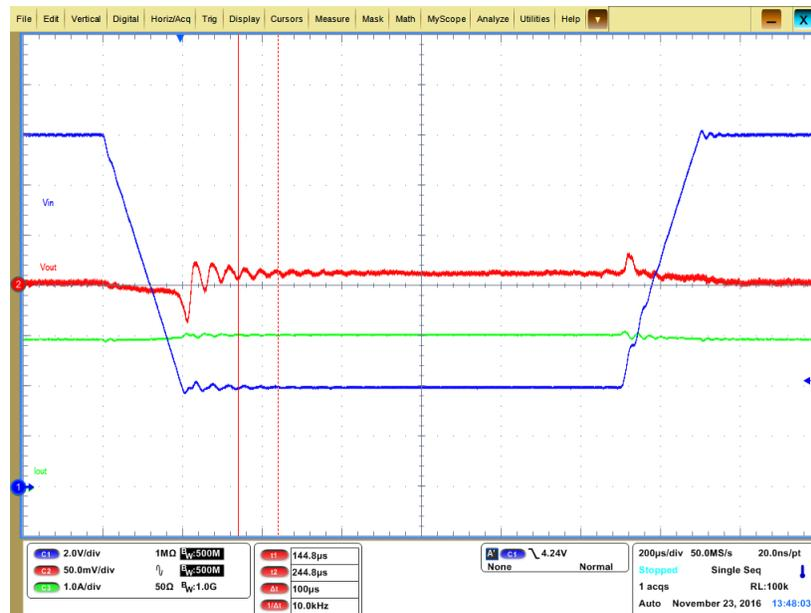

Figure 16. 3.2.1.3 Line Transient Down to 3.9 V
- Voltage for VBAT starts at 14 V, steps down to 3.9 V, and returns to 14 V (Figure 16)